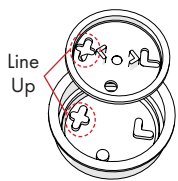

Figure 1
**STEP 5** Insert the **Plastic Disc** into the **Membrane**. **FIG 1**